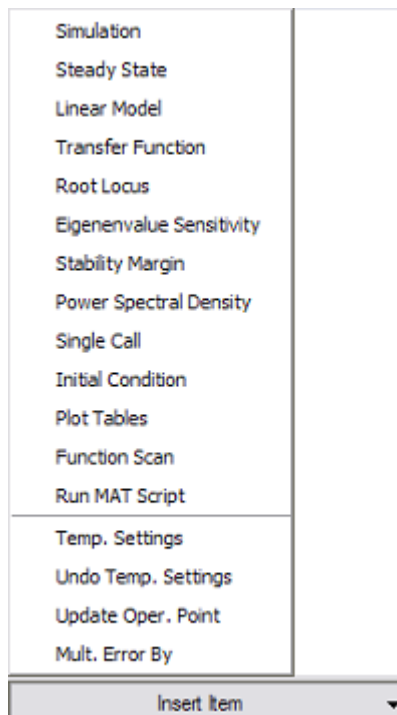

Figure 115 Multiple Analysis Pop-up
1. Select the analysis type (Simulation, Steady-State, etc.) and execution order for the analyses you wish to run by selecting the Insert Item button to open the pop up menu (Figure 115).
The Property column is used to define the type of analyses you want to execute. To enter an analysis type, point to the open field in this column and select it to display the Easy5 Analysis Types pop-up shown in Figure 115. Select the analysis you want from this menu and it will be copied into the setup form for you. For every analysis type you specify, you must also specify a respective analysis file name.